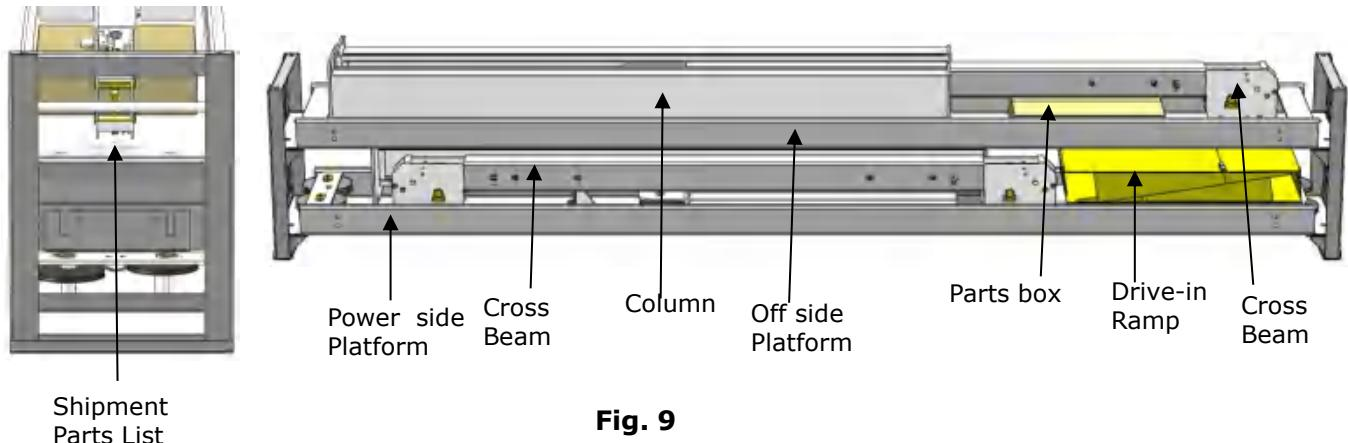

Fig. 9
2. Move the lift aside with a fork lift or hoist, open the package and check the parts according to the shipment list. (**See Fig. 9**).